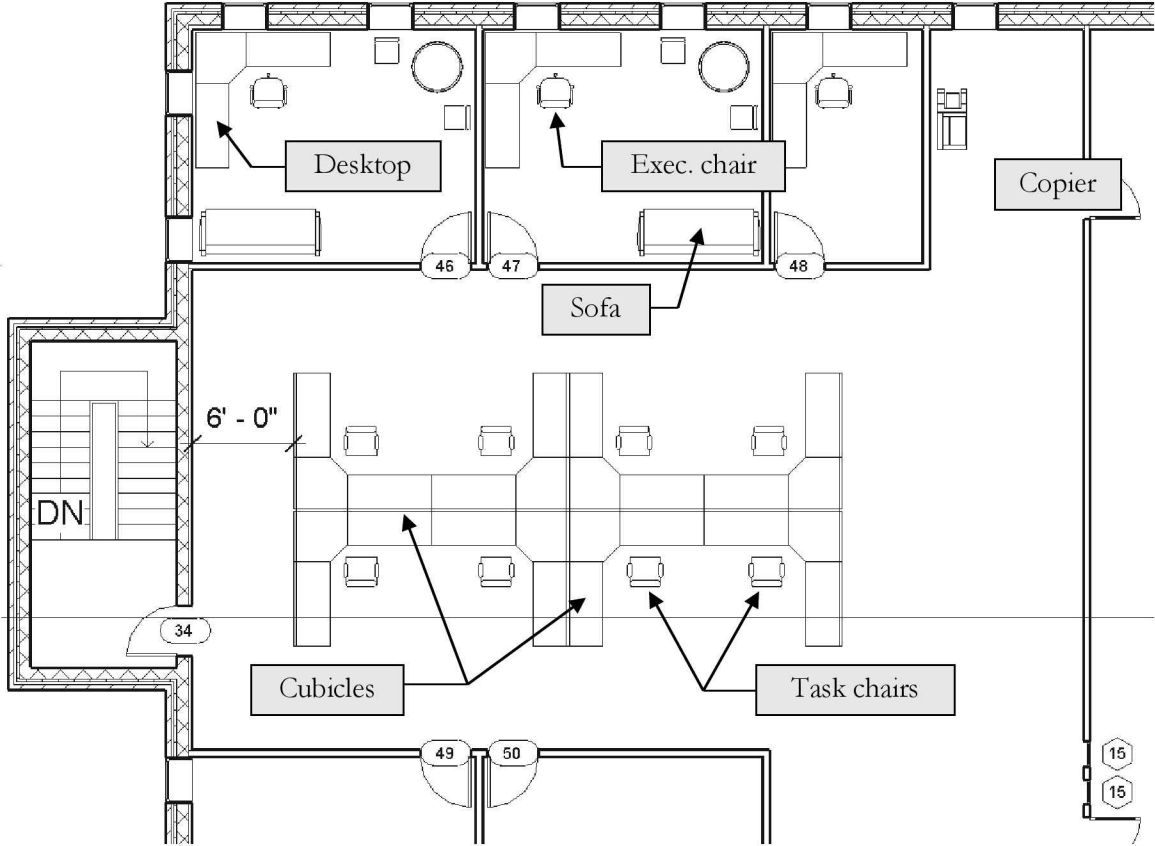

FIGURE 11-3.1 Level 3 – furniture layout
- 4. Place the furniture as shown in Figure 11-3.1.